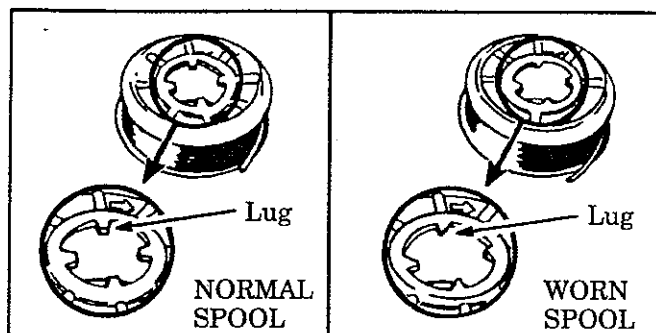

Figure 23
- a. Replace the spool when the square corners on the lugs are rounded off, reduced in size, or broken off. Figure 23.